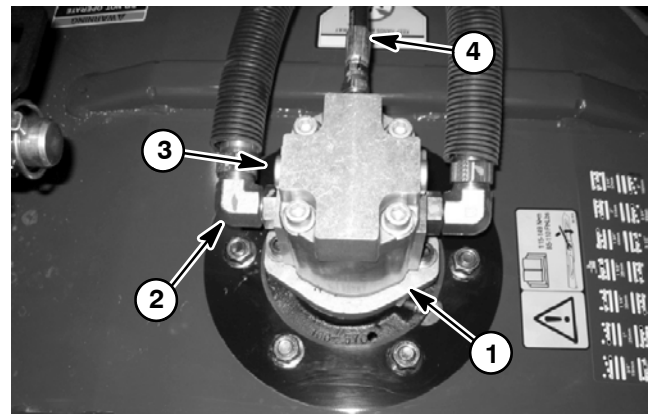

Figure 28
5. For the suspected bad deck motor, disconnect return hose from the motor. **Note:** the return hose is on the motor side that includes the relief valve (Fig. 28).